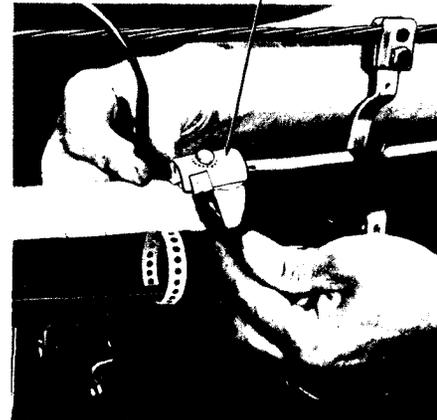

Fig. 10—Installing Bond Clamp
5.02 Install right bond clamp as follows: Slide the inner shoe of the bond clamp between the core wrap and metal shield until threaded stud hits end of sheath (Fig. 10). Orient it so the stud faces to the top. On single sheath cables less than 0.8-inch in diameter, slit the sheath approximately 1 1/2 inches on the bottom side of the cable to allow clamp to slide in on top side. Tighten bond clamp nut securely with a 216-type tool.